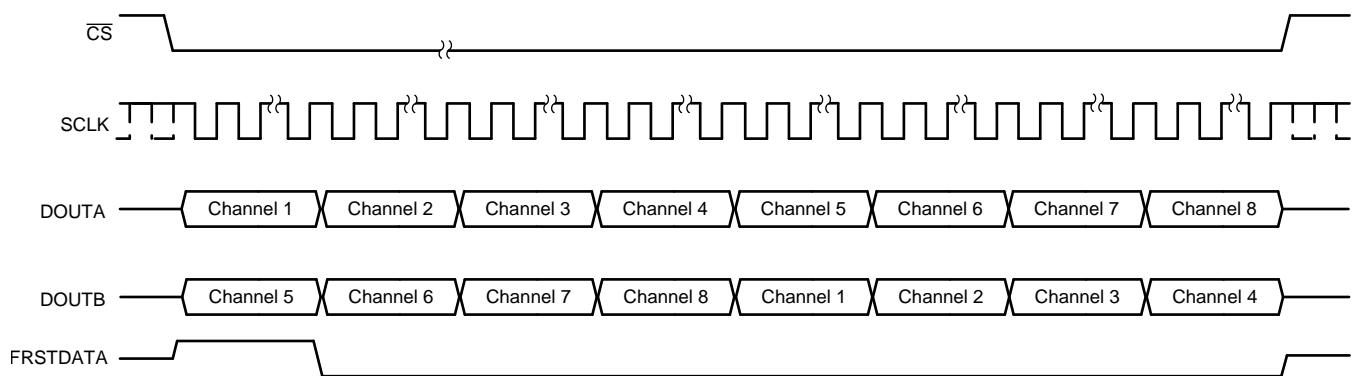

Figure 69. Data Read Back in the Serial Interface Using Either DOUTA or DOUTB Timing Diagram
- The conversion data can be read out of the device using only one of the two serial output lines, DOUTA or DOUTB. In this case, using DOUTA for output data read back is recommended because channel 1 data appear first on DOUTA followed by the data for other channels in ascending order. To read the data for all channels, provide a total of $14 \times 8 = 112$ SCLK cycles for the ADS8578S. This entire data frame can be created within a single CS pulse or each group of 14 SCLK cycles can be individually framed by the CS signal. The primary disadvantage of using just one data line for reading conversion data is that the throughput is reduced if a data read operation is performed after conversion. Figure 69 illustrates this operation.
- Alternatively, only DOUTB can be used for reading the conversion data from all channels. In this case, everything else remains the same and the output bit stream contains data for all channels in the following order: channels 5, 6, 7, 8, 1, 2, 3, and 4 for the ADS8578S. Figure 69 illustrates this operation.